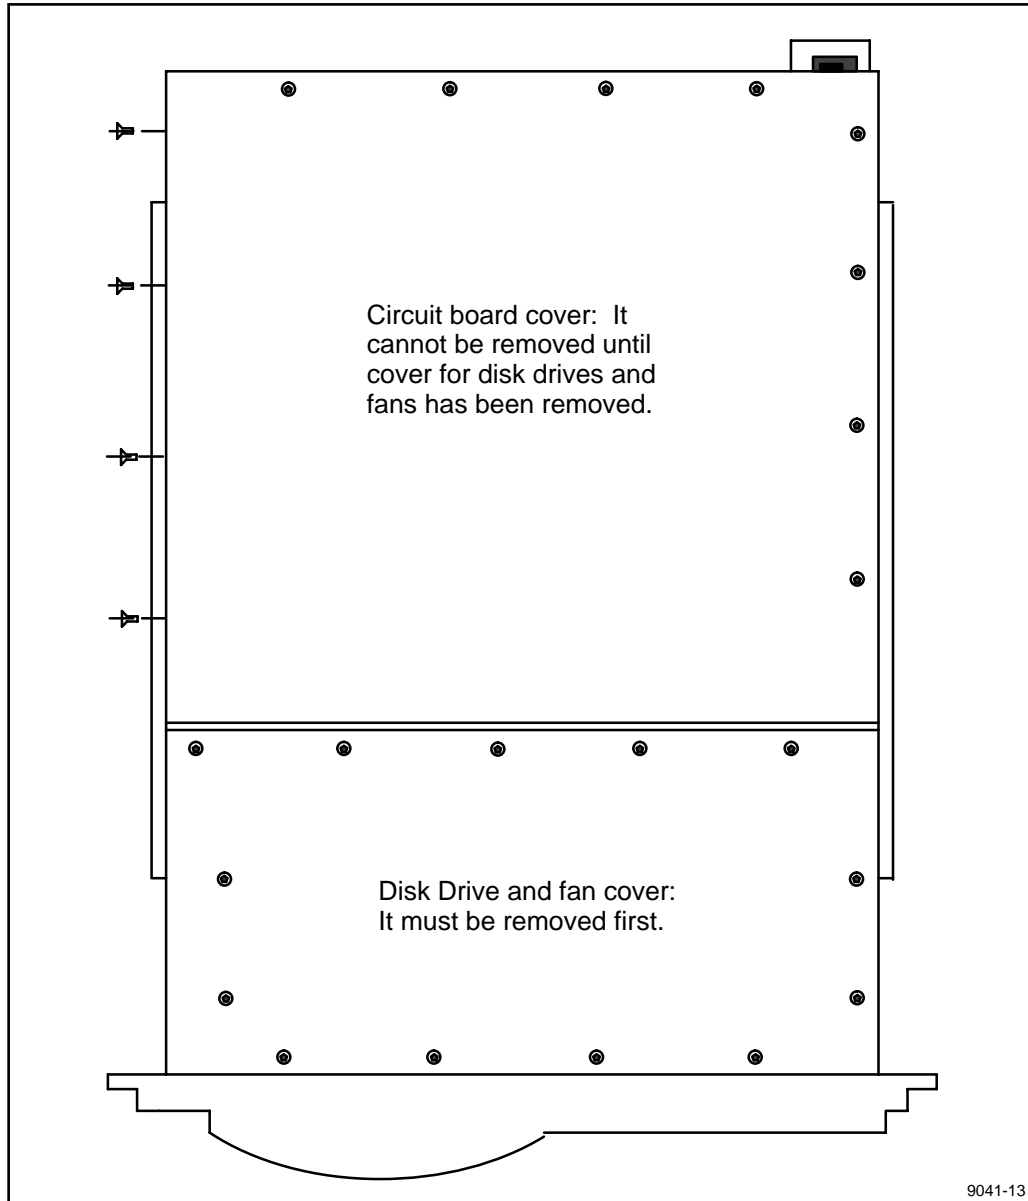

Figure 1. PDR100 Showing Attaching Screws for the Top Covers
1. Using a driver with a #10 Torx tip, remove the flat-head screws that hold down the top covers. See Figure 1.